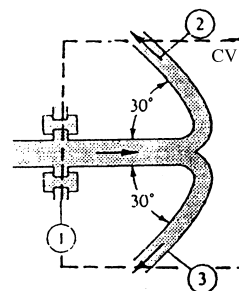

Fig. P3.62
**3.62** Water at  $20^\circ\text{C}$  exits to the standard sea-level atmosphere through the split nozzle in Fig. P3.62. Duct areas are  $A_1 = 0.02 \text{ m}^2$  and  $A_2 = A_3 = 0.008 \text{ m}^2$ . If  $p_1 = 135 \text{ kPa}$  (absolute) and the flow rate is  $Q_2 = Q_3 = 275 \text{ m}^3/\text{h}$ , compute the force on the flange bolts at section 1.